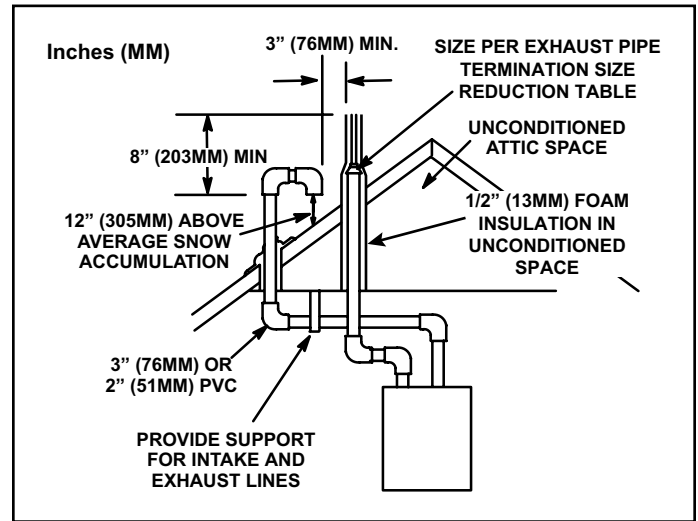

Figure 34. Direct Vent Roof Termination Kit
Intake and exhaust pipes may be routed either horizontally through an outside wall or vertically through the roof. In attic or closet installations, vertical termination through the roof is preferred. Figure 34 through Figure 41 show typical terminations.
3. On roof terminations, the intake piping should terminate straight down using two 90° elbows (see Figure 34).